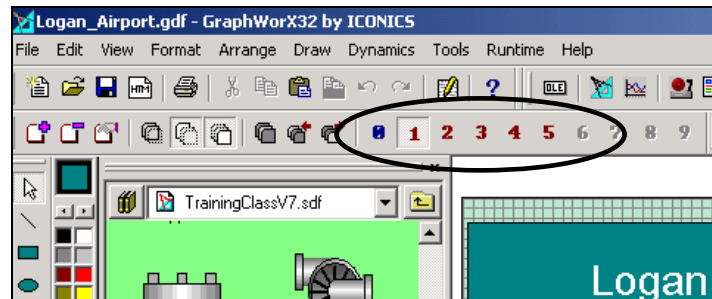

Figure 5.23
- 6 We will first display **Layer 1**, which will represent **Terminal A**. To switch layers select the number on the **Layers** toolbar as shown in **Figure 5.23**.